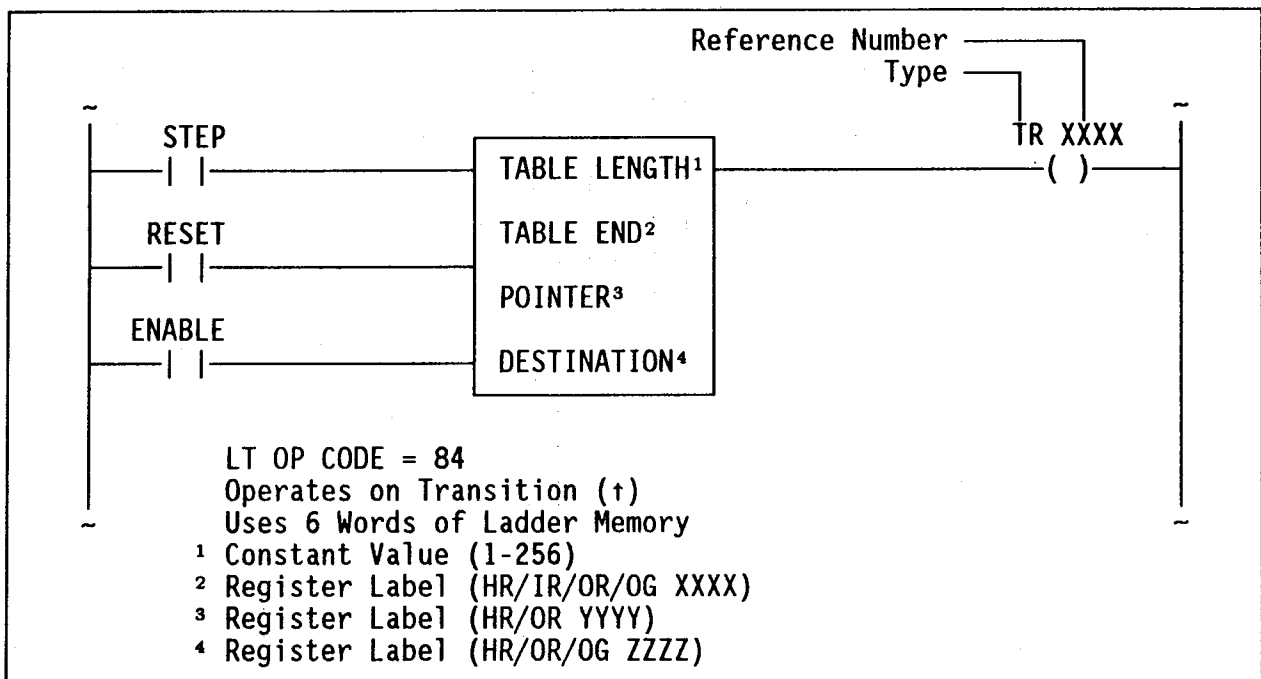

Figure 1. Table-to-Register Move Concept
The Table-to-Register Move (TR) function performs a drum sequencer task by allowing a table of registers to be transferred to a destination location, one register at a time. The table may contain from 1 to 256 registers. Figure 1 illustrates the concepts and symbols related to the TR function.